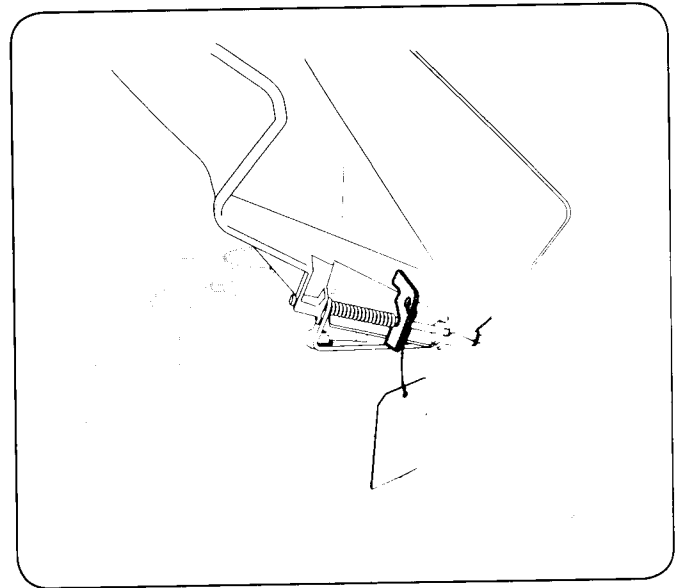

Figure 3-2
- Locate the shipping brace, if present, and accompanying warning tag found on the right side of the mower between the discharge chute and the cutting deck. See Fig. 3-2.